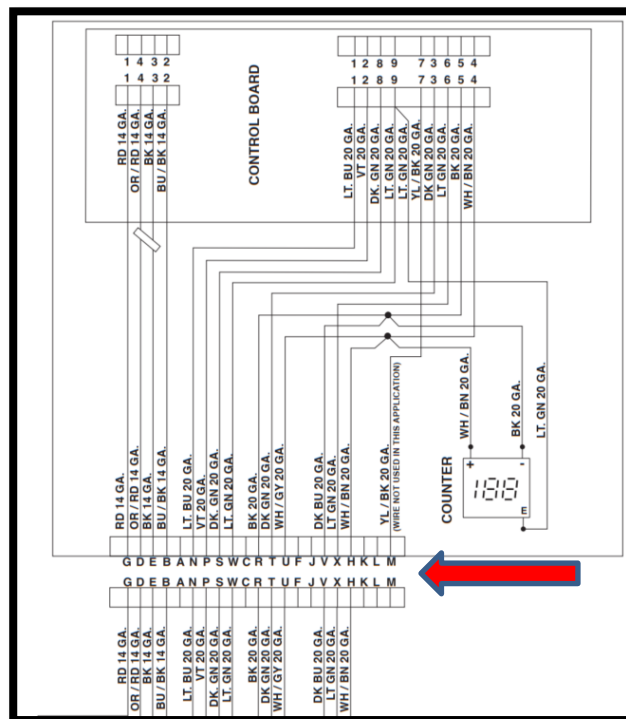

Figure 2 - control box main connector
2.2.1. Remove the wheelchair lift control box cover and inspect the wheelchair lift control box main connector. Check wiring on pins N, M and P. see figure 2 for additional details.